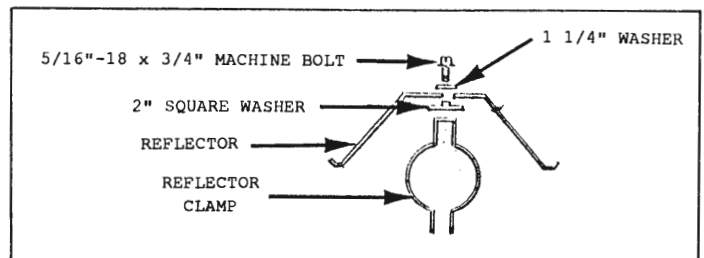
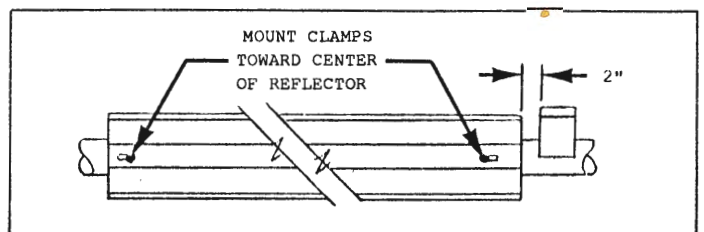

Figure 2-13
Figure 2-14
1. Assemble bolt with washers and clamps to the reflector (See Figure 2-13), slide clamps in slot towards center of reflector (See Figure 2-14). This will allow radiant tube to expand at a rate greater than that of the reflector.
3. Install shorter reflector 2 in. away from radiant sensor box (See Figure 2-14).